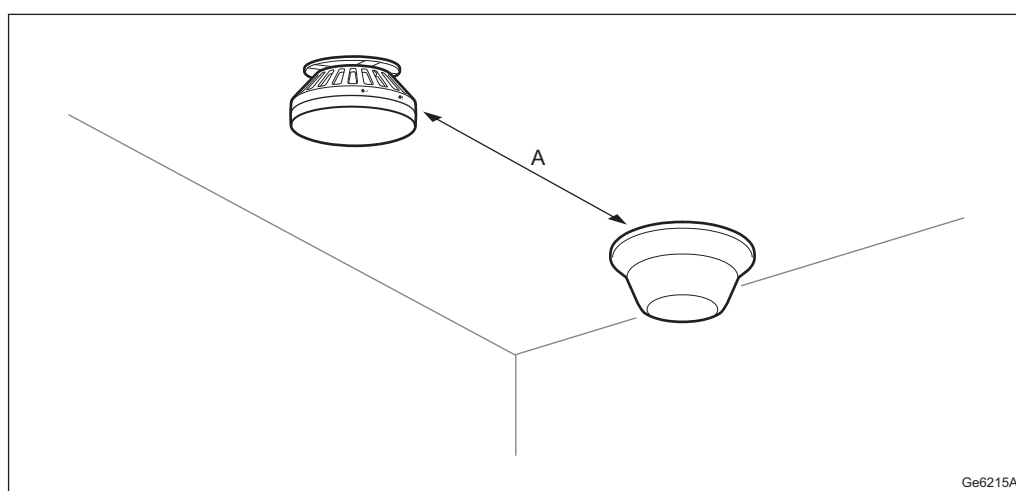

Figure 12 Minimum Mounting Distance To Other Antennas
The minimum distance (A) that is required between the RD and other antennas, to minimize radio disturbances, is shown in Figure 12 and is given in Table 14.